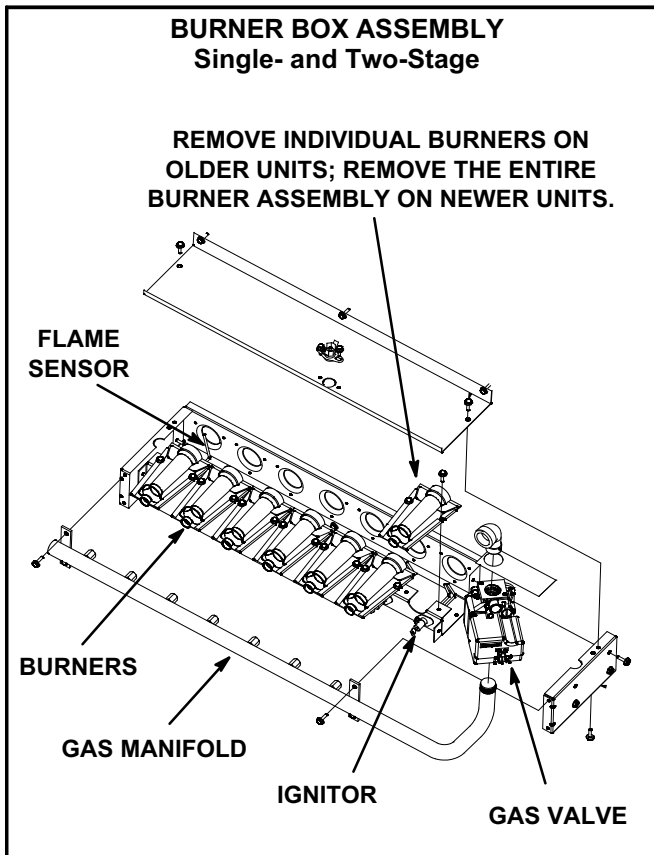

FIGURE 32
- 4- Remove screws securing burners to burner support and lift the individual burners or the entire burner assembly from the orifices. See figure 32 or 33. Clean as necessary.